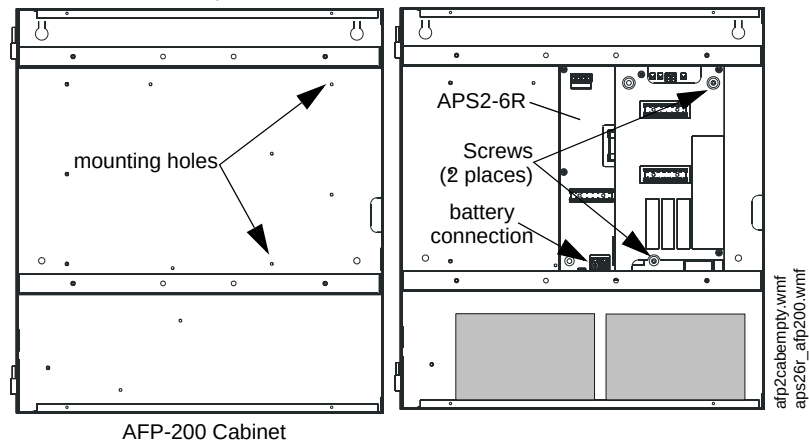

Figure 3.2 Mounting an APS2-6R into an AFP-200 Cabinet
3. Align the APS2-6R over the mounting holes of the cabinet. Observe orientation of the power supply when installing it into the cabinet. See Figure 3.2 below.